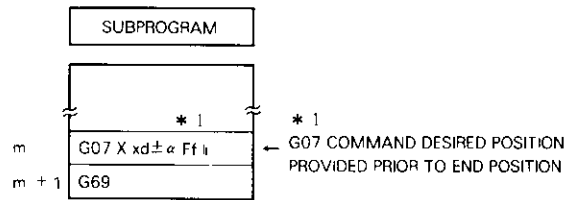

Fig. 4. 60 End Display of the Subprogram
- ① The subprogram must be ended as shown in Fig. 4. 60.